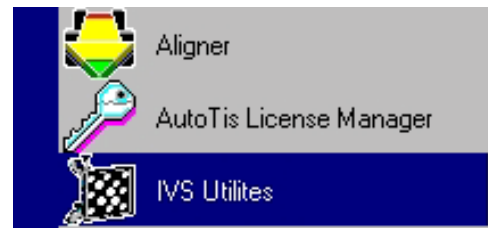

Figure 3-93
4. Enter the IVS Utilities by clicking on **<START> <IVS UTILITIES>**. (Figure 3-93)